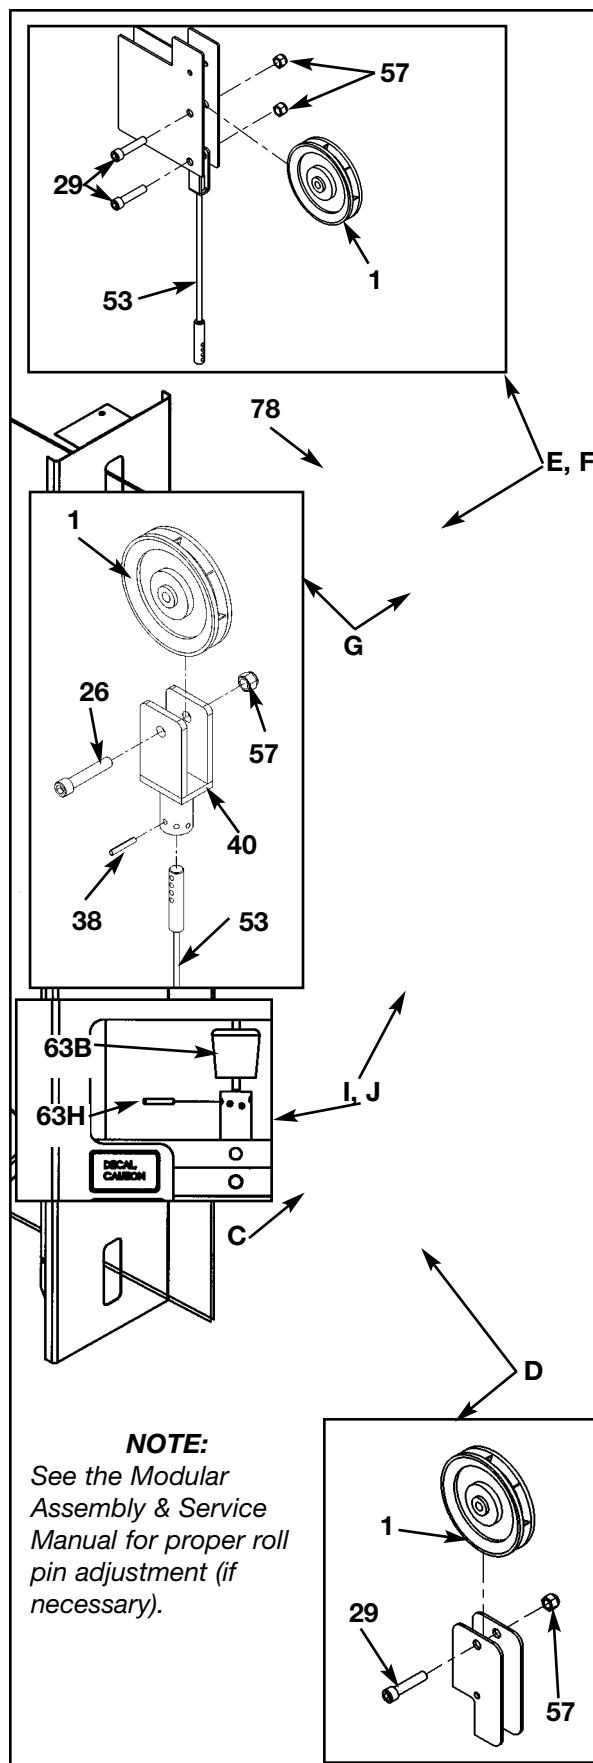

Figure 16
7. Routing Cable (see steps 7A - 7J and Figure 16).
- C. Route cable to inside of column (#78). See Figure 16, letter D.
- D. At the same time, install pulley to lower pulley bracket and route cable (#53) using one pulley (#1), one SHCS .375-16 x 1.75 (#29) and one nylon locknut .375-16 (#57). See Figure 16, letter D. Set cable down.
- E. Attach one end of the weight stack cable (#53) to the frame as shown in Figure 16 (using one SHCS .375-16 x 1.75 (#29) and one nylon locknut .375-16 (#57). See Figure 16, letter E.
- F. **NOTE:** Do not install hanging pulley in this step. At the same time, route cable (#53) and install the last pulley before the weight stack (using one SHCS .375-16 x 1.75 (#29) and one nylon locknut .375-16 (#57). See Figure 16, letter F.
- G. Pick up the other cable and install the pulley mount (#40). Drive a spiral pin (#63H) through cable end and pulley mount as shown in Figure 16, letter G.
- I. Route cable downward to top plate. Slide rubber boot (#63B) onto cable. Drive a spiral pin through top plate connector and cable end. The top weight should be snug (just resting on the next plate). See Figure 16, letter H.